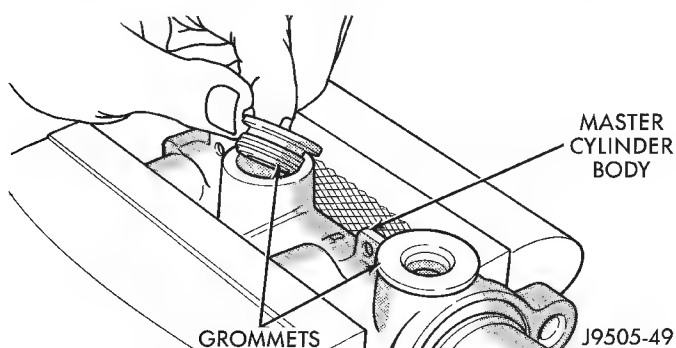

Fig. 20 Grommet Removal
(6) Remove old grommets from cylinder body (Fig. 20).